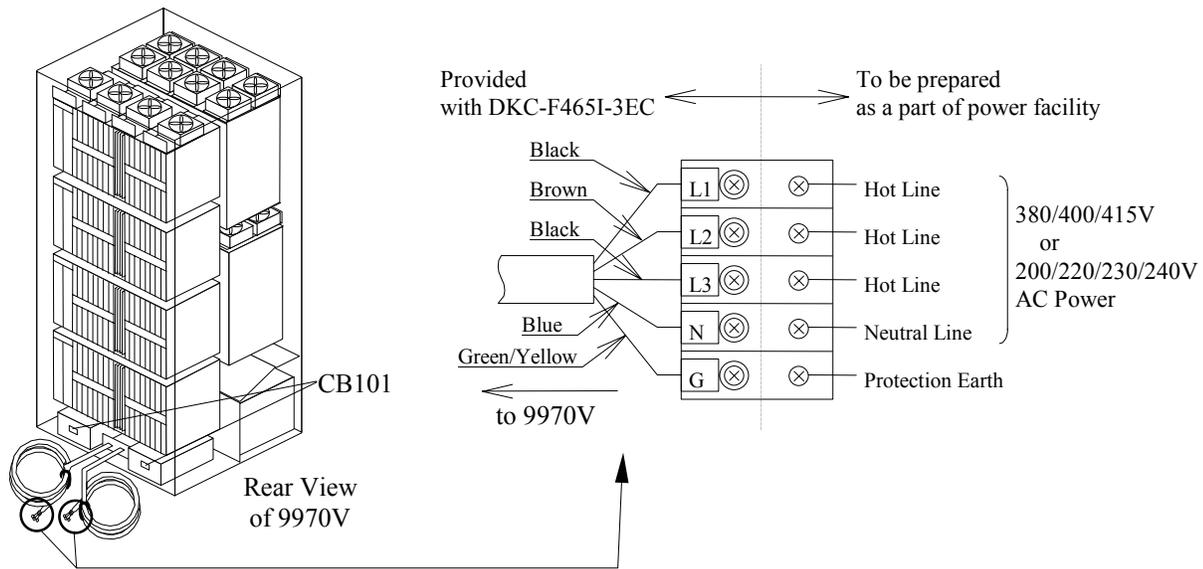

Figure 5.12 Power Plugs for Three-Phase 9970V Subsystem (Europe)
- Figure 5.12 illustrates the power plugs for a three-phase 9970V subsystem (Europe).